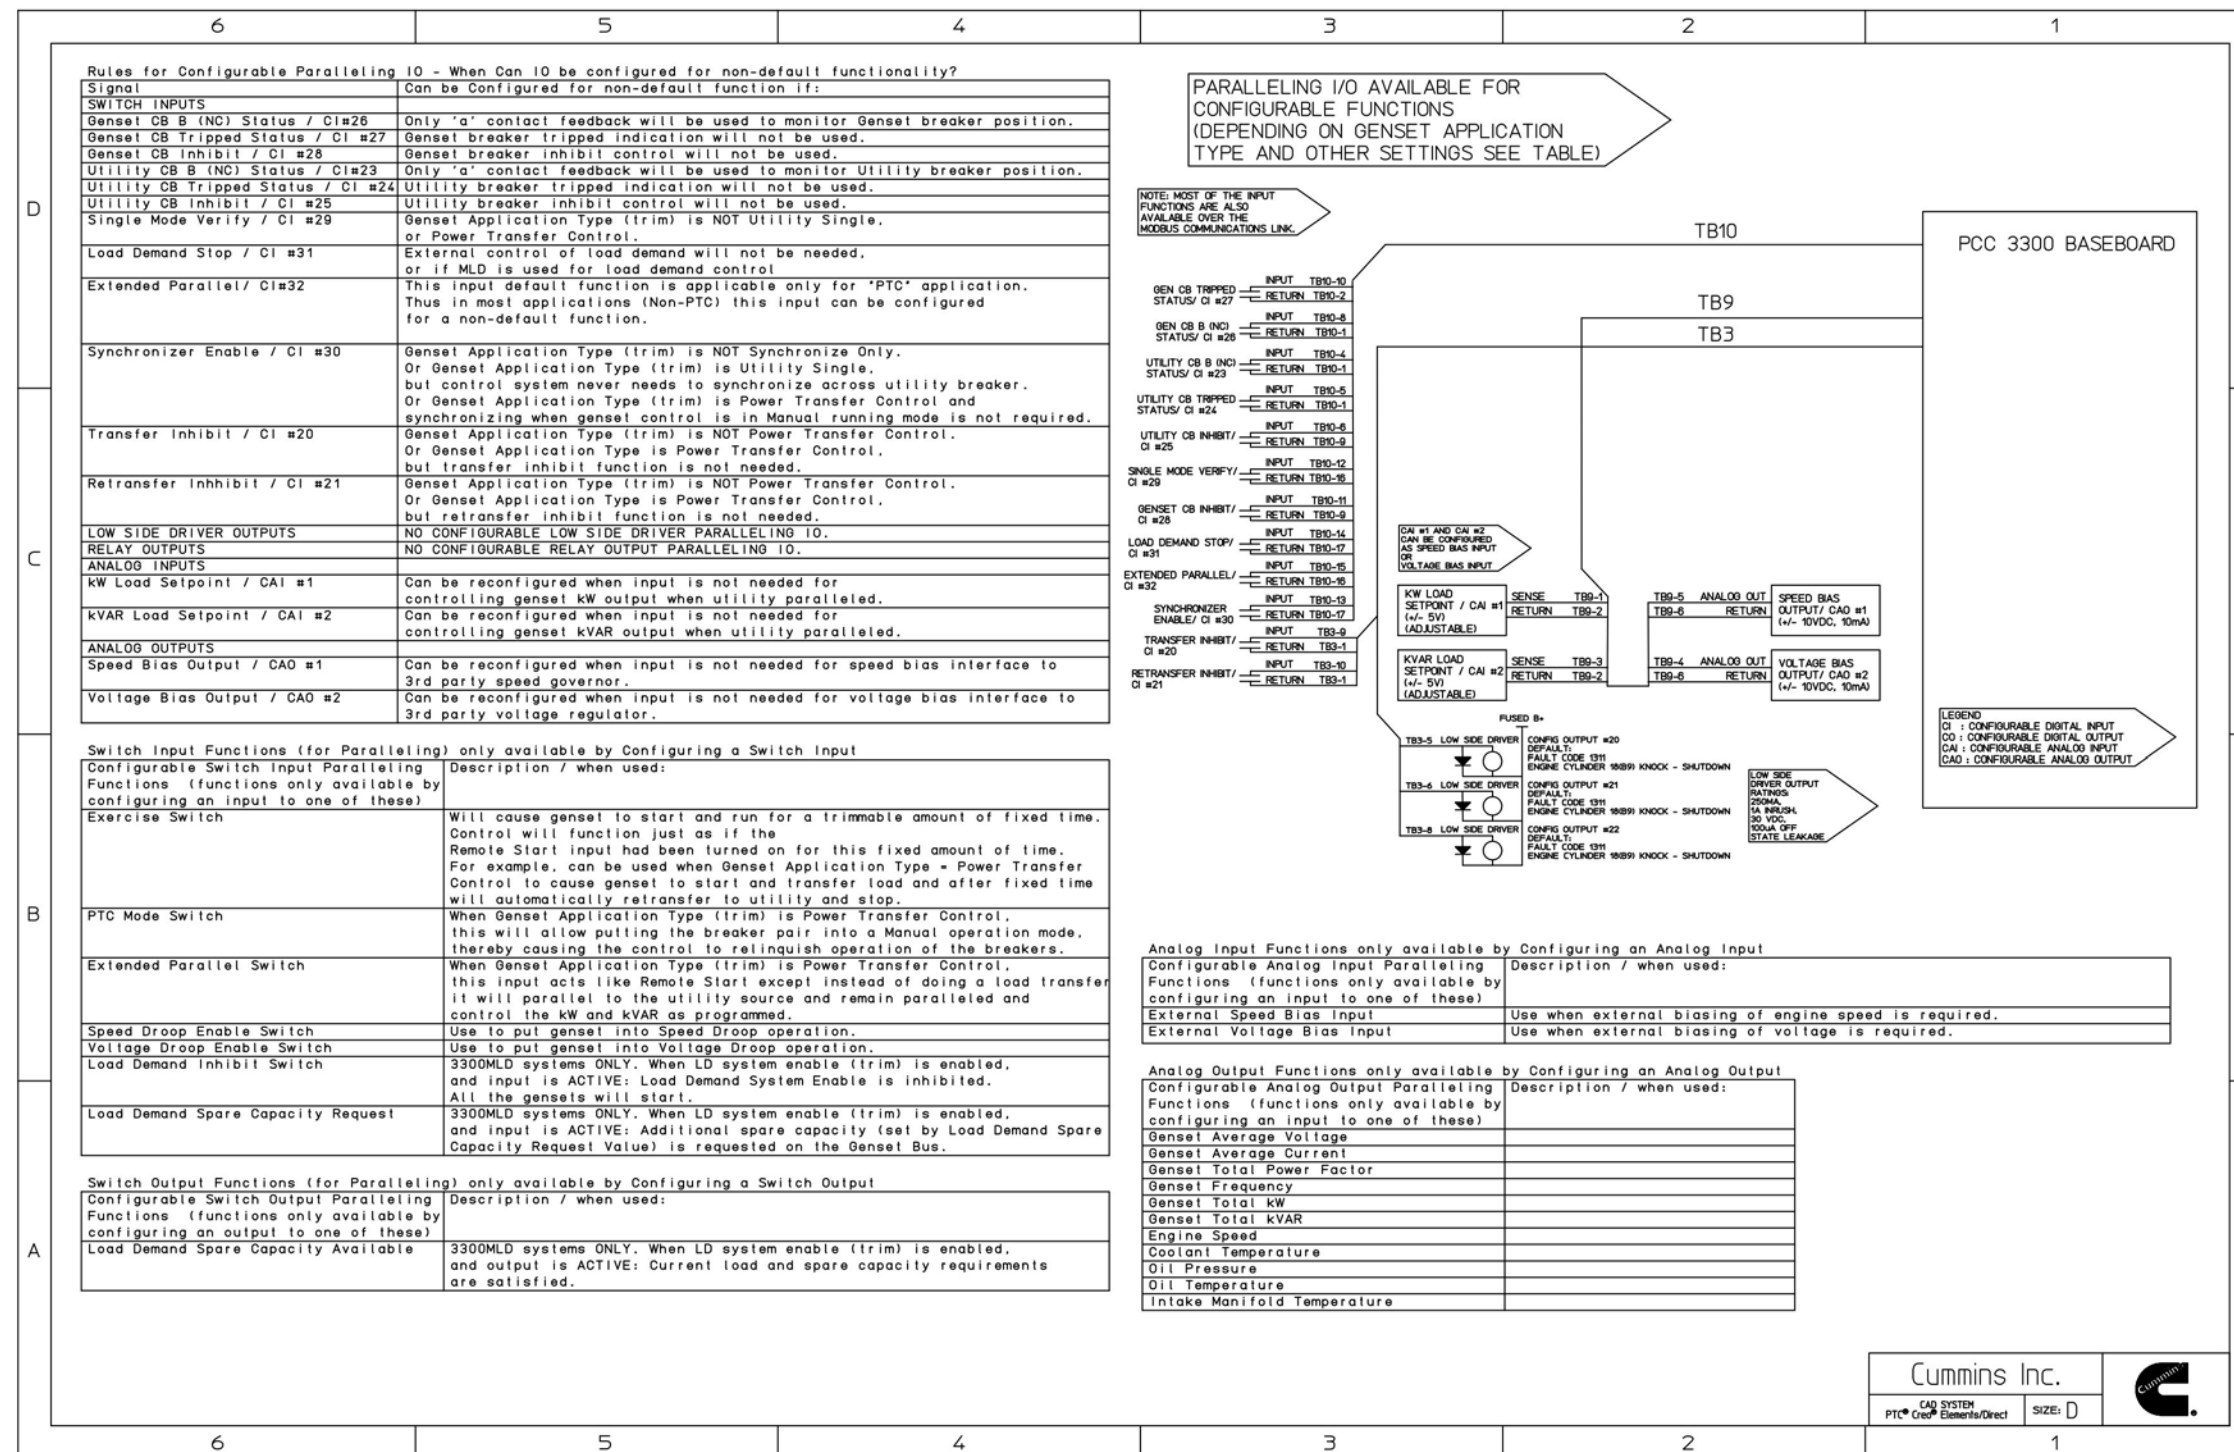

FIGURE 60. POWERCOMMAND 3.3 PARALLELING CONNECTIONS - CONFIGURABLE PARALLELING I/O
- Figure 60. PowerCommand 3.3 Paralleling Connections - Configurable Paralleling I/O 123